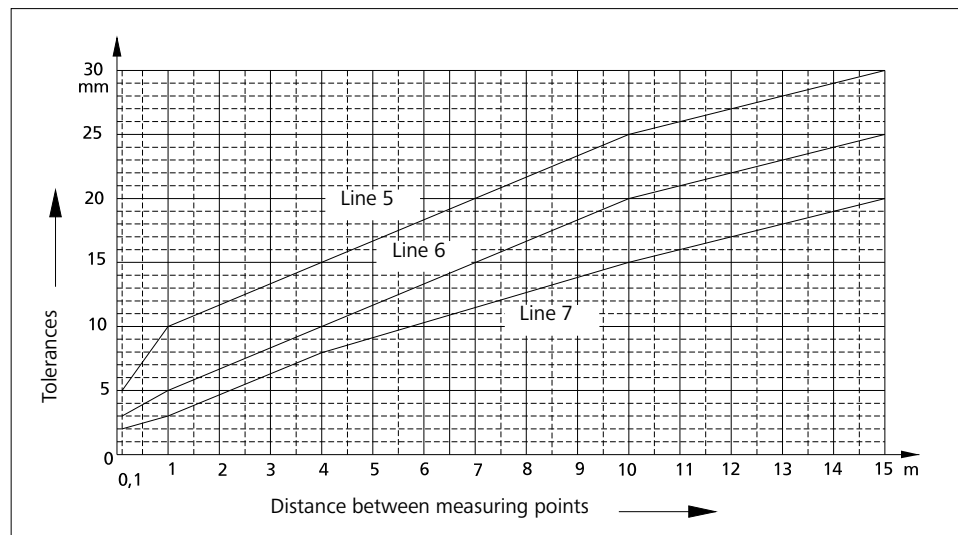

Fig. 15.2
* Intermediate values can be found in Fig. 15.2 "Flatness tolerances". Round up values found to full millimetres.